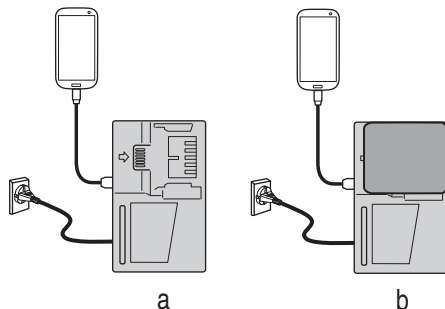

Fig. 14
- Charging a USB device from a electrical outlet (**Fig. 14-a**).
- Charging a USB device and battery from a electrical outlet.(**Fig. 14-b**)